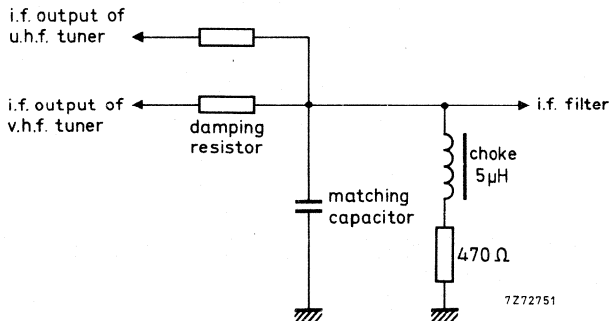

Fig. 12.
The tuner needs a d.c. path from the i.f. output terminal (T) to earth, preferably via a choke of approx. 5 μH outside the tuner (Fig. 12). Where the tuner is used in combination with a u.h.f. tuner, this choke can be common for both tuners; a resistor in series with the choke can make ineffective the i.f. output circuit of the switched off tuner. For damping the i.f. output circuit and matching the i.f. output impedance of the tuner to the i.f. amplifier, a series resistor and a parallel capacitor as shown in Fig. 12 should be used. (During v.h.f. operation the voltage across the 470 Ω resistor is 1 to 1,2 V.)